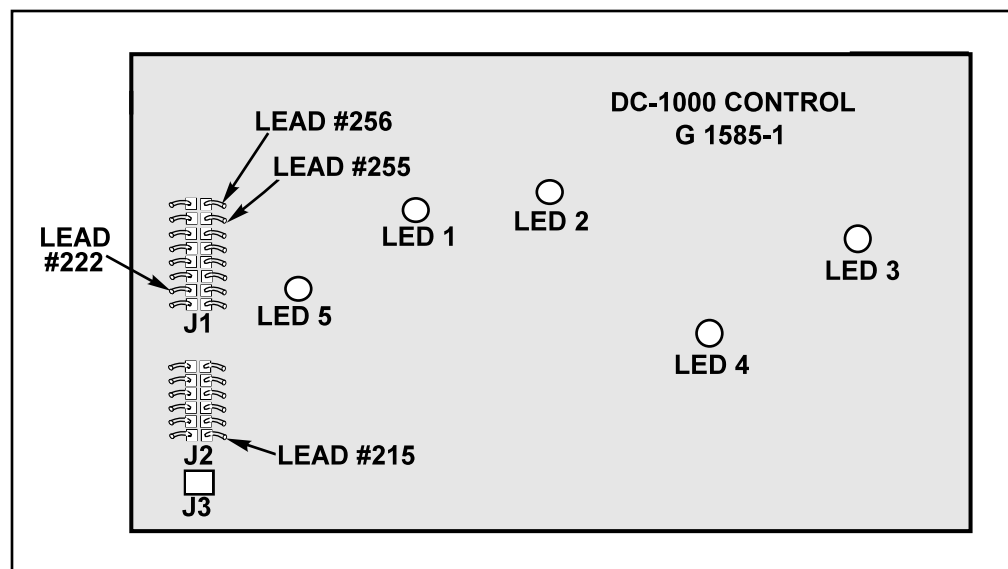

FIGURE F.11 - LED 2 Open Circuit Voltage Test Points
- a. If open circuit voltage IS present at the output terminals, then check for open circuit voltage from lead #222 (-) plug J1 to lead #215 (+) plug J2 on the Control Board See Figure F.11.
See wiring diagram and Figure F.11.